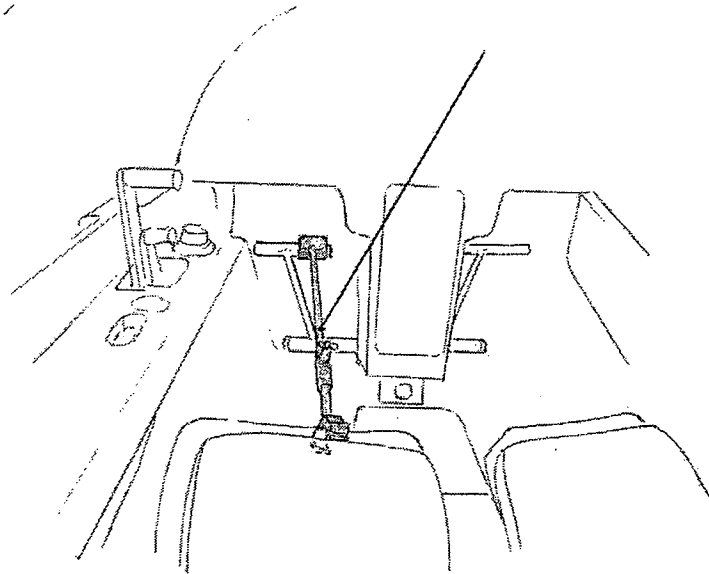

Fig. 8-2 - RUDDER LOCKS
- Install the proper rudder gust-locks, supplied with the aircraft, in the rear rudder pedals as shown in Fig. 8-2.